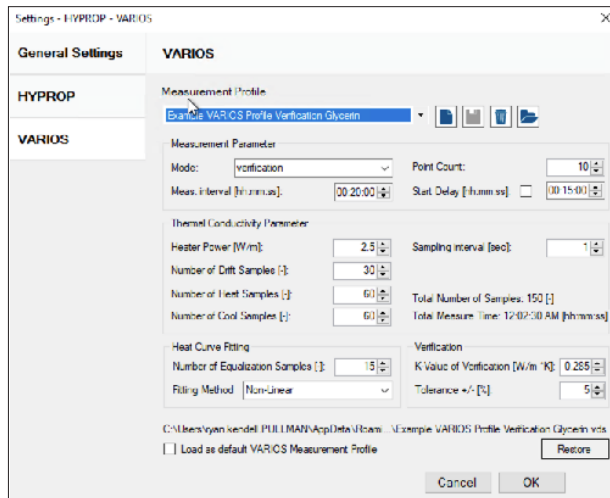

Figure 28 Example VARIOS Glycerin verification measurement profile
- VARIOS measurement following IEEE 442-2017 standard (Figure 28)